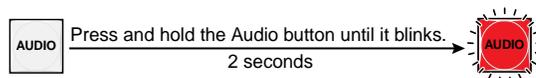

Figure 3-67 — Select Audio mode
2. Press and hold the Audio button for approximately 2 seconds (figure 3-67).